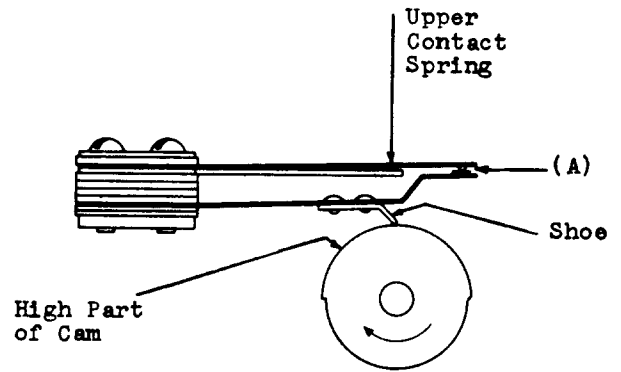

Fig. 6 - High-speed Cam Assembly — Method of Measuring Contact Pressure
2.15 Contact Pressure: Fig. 6(A) — With the shoe of the lower contact spring on the *high* part of the cam, the contact pressure between the upper and lower springs measured at the end of the upper spring shall be